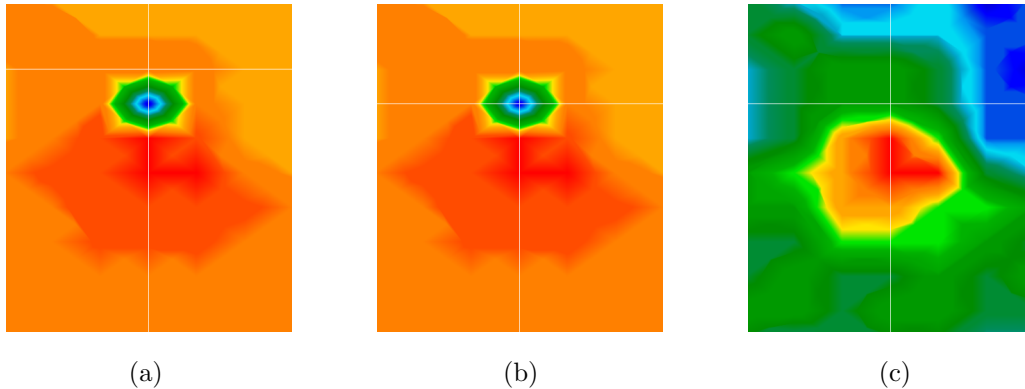
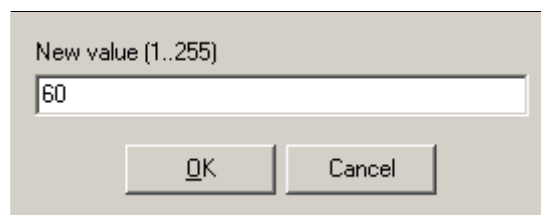

Figure 14: Signal correction
Figure 15: Dialog to enter your measure value
Throughout usage of data transfer with radio receiver it is possible that some signals will be modified. Error signals express themselves often with totally red coloration of the whole graphic. Figure 14 (a) shows a graphic with an error signal.
2. Now press the key combination **Alt** + **F12**. A dialog like in figure 15 will open itself. Keep in mind the indicated numerical value and close this window.
3. Now move the crosshairs directly on the error signal like in figure 14 (b). The key combination **Alt** + **F12** opens the dialog from figure 15. Replace this indicated value with the other measure value you kept in mind. Confirm your input by a click on **OK**.
After this correction it is possible that other hidden objects will become visible, like in figure 14 (c).